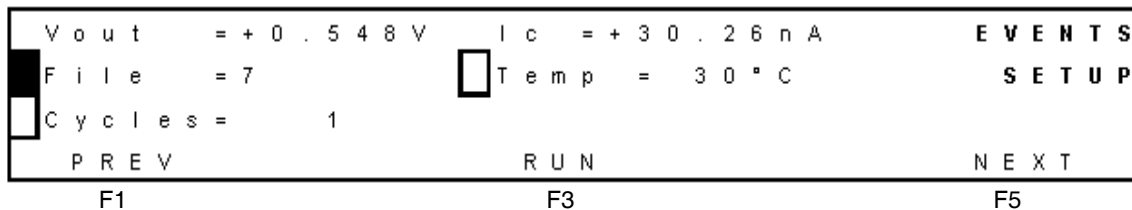

Figure 3-56 Events Setup Screen with Time File 2
- c. Select **F1 PREV**. The Events Setup screen appears (Figure 3-56).